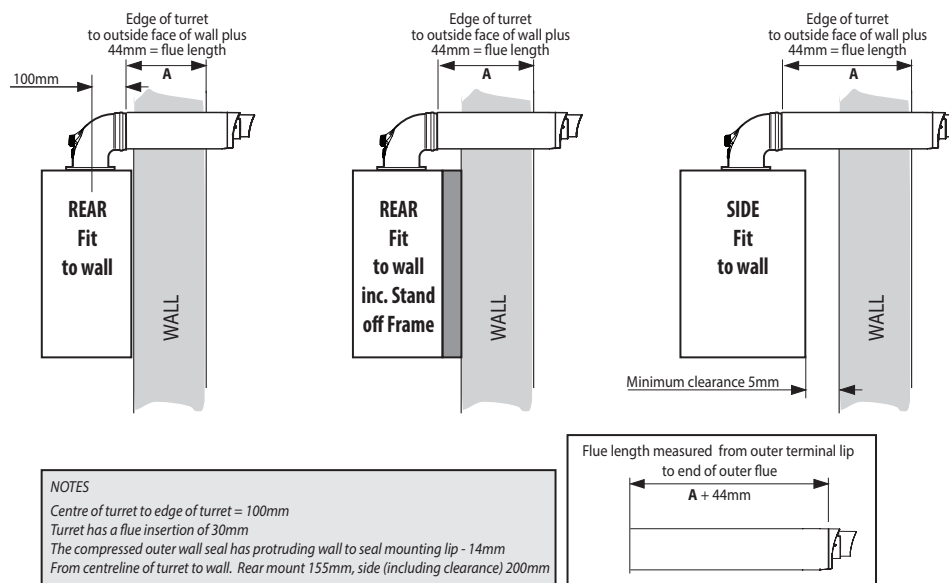

FIGURE 2
1. Measure the required cut flue length (A+44mm). If inside the dimensions shown in Figure 2 (page 22) "1 Piece 600mm" proceed.